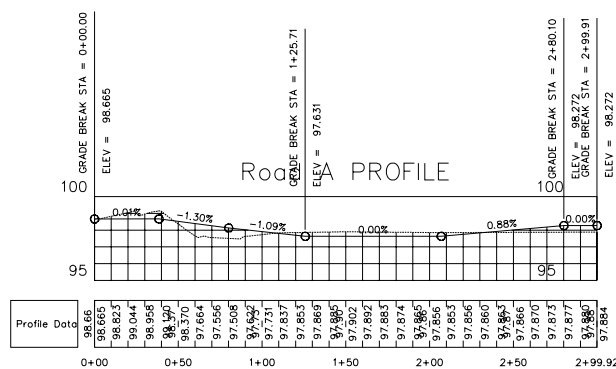

Figure 6-47 The layout profile
6. Right-click after you have snapped to the center of the last circle. Thus, you have created a profile consisting of tangents connecting the point of vertical intersections (PVIs), as shown in Figure 6-47.